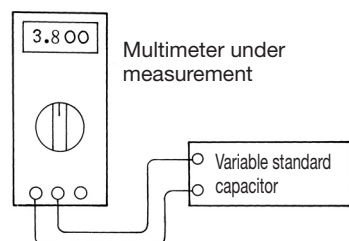

Fig. 5-1: Connections for calibration
(4) After the adjustment, close the adjustment hole with the oval seal (one seal is provided for spare use).
**⚠ If a standard voltage generator with high accuracy is not available, make connections as shown in (1) in Fig. 5-1 and then make an adjustment by matching the reading on the PC20TK with that of the voltmeter used as standard.**
The PC20TK is typically calibrated by making connections as shown in Fig. 5-1, matching the reading of the unit (this multimeter) under test with the target value while changing the output from the generator, and then reading the value displayed on the generator (or reading the value displayed on the PC20TK against the standard input). Enter the calibration result as in the example of completing the table for test results on page 34. Use the test result form on page 37 or its photocopy.